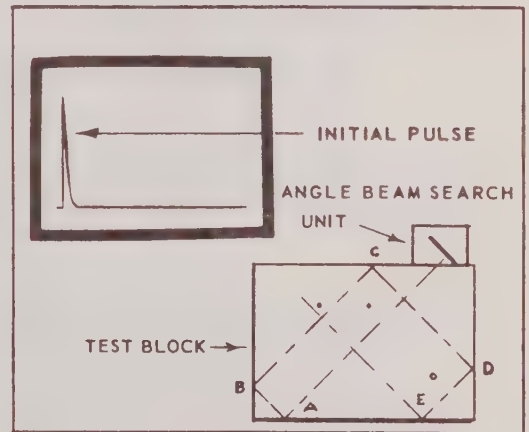

Figure 3-13 Path of Angle Sound Beam Through The Test Block. No Reflection From Holes
- g. Move the search unit slowly to the left end of the block until a picture similar to that in Figure 3-13 appears.
The path of a beam at this time is shown in Figure 3-13. It will be seen that the beam is progressing from surface to surface inside the block from A to B etc. and that it fails to strike any defect surfaces which are in a position to reflect the sound beam back to the search unit. Eventually some of the sound beam may return to the search unit surface. However, because of attenuation or weakening of the beam as it travels through the material, the beam may be dissipated before the return path is completed. As mentioned in the preceding note, the operator will observe that several small indications appear along the base line when the SU is attached to the cable. These are due to reflections from within the search unit. Not all the sound energy passes through the plastic wedge of the search unit to the test surface. Some of it reflects around inside the wedge until it strikes the crystal, causing what appears to be a wide initial pulse even at a minimum Pulse Length setting. Additional small reflections appear when the Search unit is applied to the test block. These reflections are from the side of the test block and are due to the fact that the beam does not travel perfectly parallel, but fans out somewhat from the crystal face. The small return signal halfway out on the base line is a result of a portion of the beam reflecting from around point D directly back to the SU. This action becomes more understandable upon proceeding to the next step.
By checking back to the diagram of the sound path in Figure 3-13, the presence of the large reflection is easily understood. Careful observation of the screen may reveal a small reflection near the initial pulse. This can be explained by the fact that the .018 inch diameter by 1/2" deep hole in the middle of the block is being intercepted by the divergent sound beam.